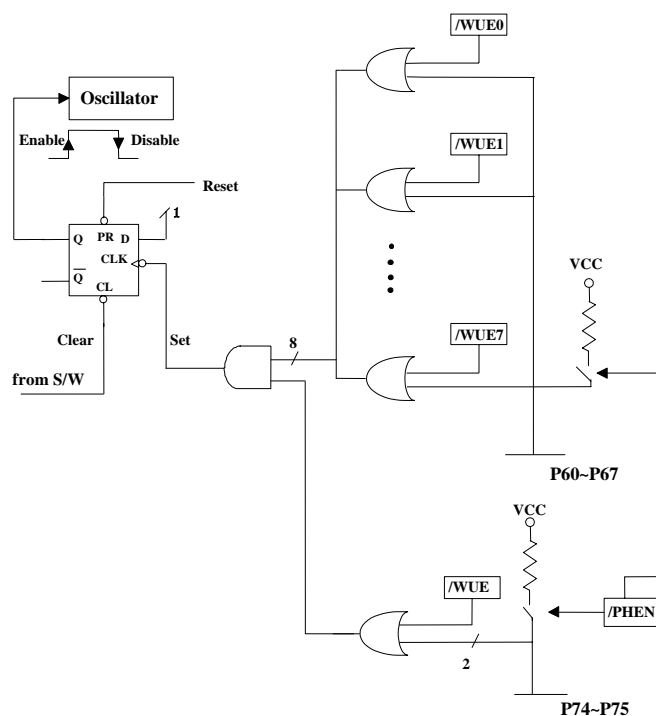

Fig. 5 Sleep Mode and Wake-Up Circuits on I/O Ports Block Diagram
Bit 4 (SLPC) This bit is set by hardware at the low level trigger of wake-up signal and is cleared by software. SLPC is used to control the oscillator operation. The oscillator is disabled (oscillator is stopped, and the controller enters into SLEEP2 mode) on the high-to-low transition and is enabled (controller is awakened from SLEEP2 mode) on low-to-high transition. In order to ensure the stable output of the oscillator, once the oscillator is enabled again, there is a delay for approximately 18ms¹ (oscillator start-up timer, OST) before the next instruction of the program is executed. The OST is always activated by a wake-up event from sleep mode regardless of the Code Option bit ENWDT status is "0" or otherwise. After waking up, the WDT is enabled if the Code Option ENWDT is "1". The block diagram of SLEEP2 mode and wake-up invoked by an input trigger is depicted in Fig. 5. The SLPC bit can be read and written.
- (A) Any of the wake-up pins is "0" as illustrated in Figure. 5. Upon waking, the controller will continue to execute the succeeding address. Under this case, before entering SLEEP2 MODE, the wake-up function of the trigger sources (P60~P67 and P74~P75) should be selected (e.g., input pin) and enabled (e.g., pull-high, wake-up control). It should be noted that after waking up, the WDT is enabled if the Code Option bit ENWDT is "0". The WDT operation (to be enabled or disabled) should be appropriately controlled by software after waking up.
- (B) WDT time-out (if enabled) or external reset input on /RESET pin will trigger a controller reset.